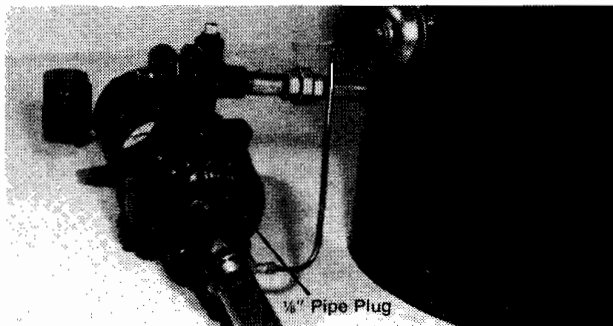

Figure 4
2. Attach air control tube to 1/8" tapped opening in ejector suction. (See Fig. 4).